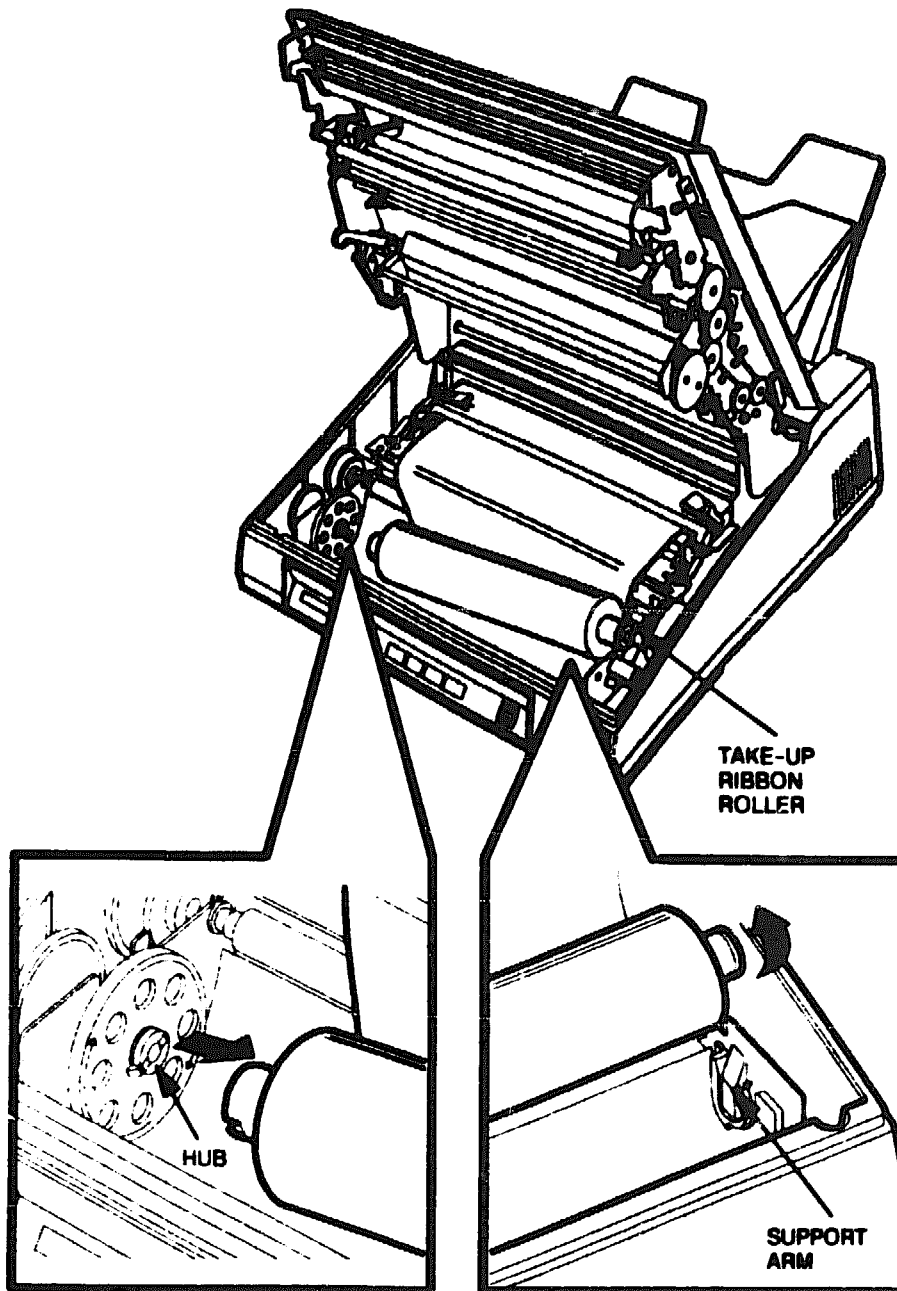

Figure 2-5 Removing the Take-up Ribbon Roller
3. Lift the right side of the take-up ribbon roller off the support arm (see Figure 2-5). Remove the take-up ribbon roller by sliding the left side of the roller off the left hub.